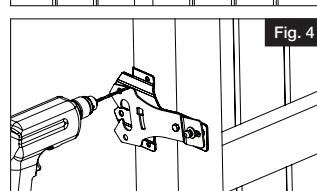

Fig. 4
- a. Drill 7/32" pilot holes on the post for latch location (Fig. 4).